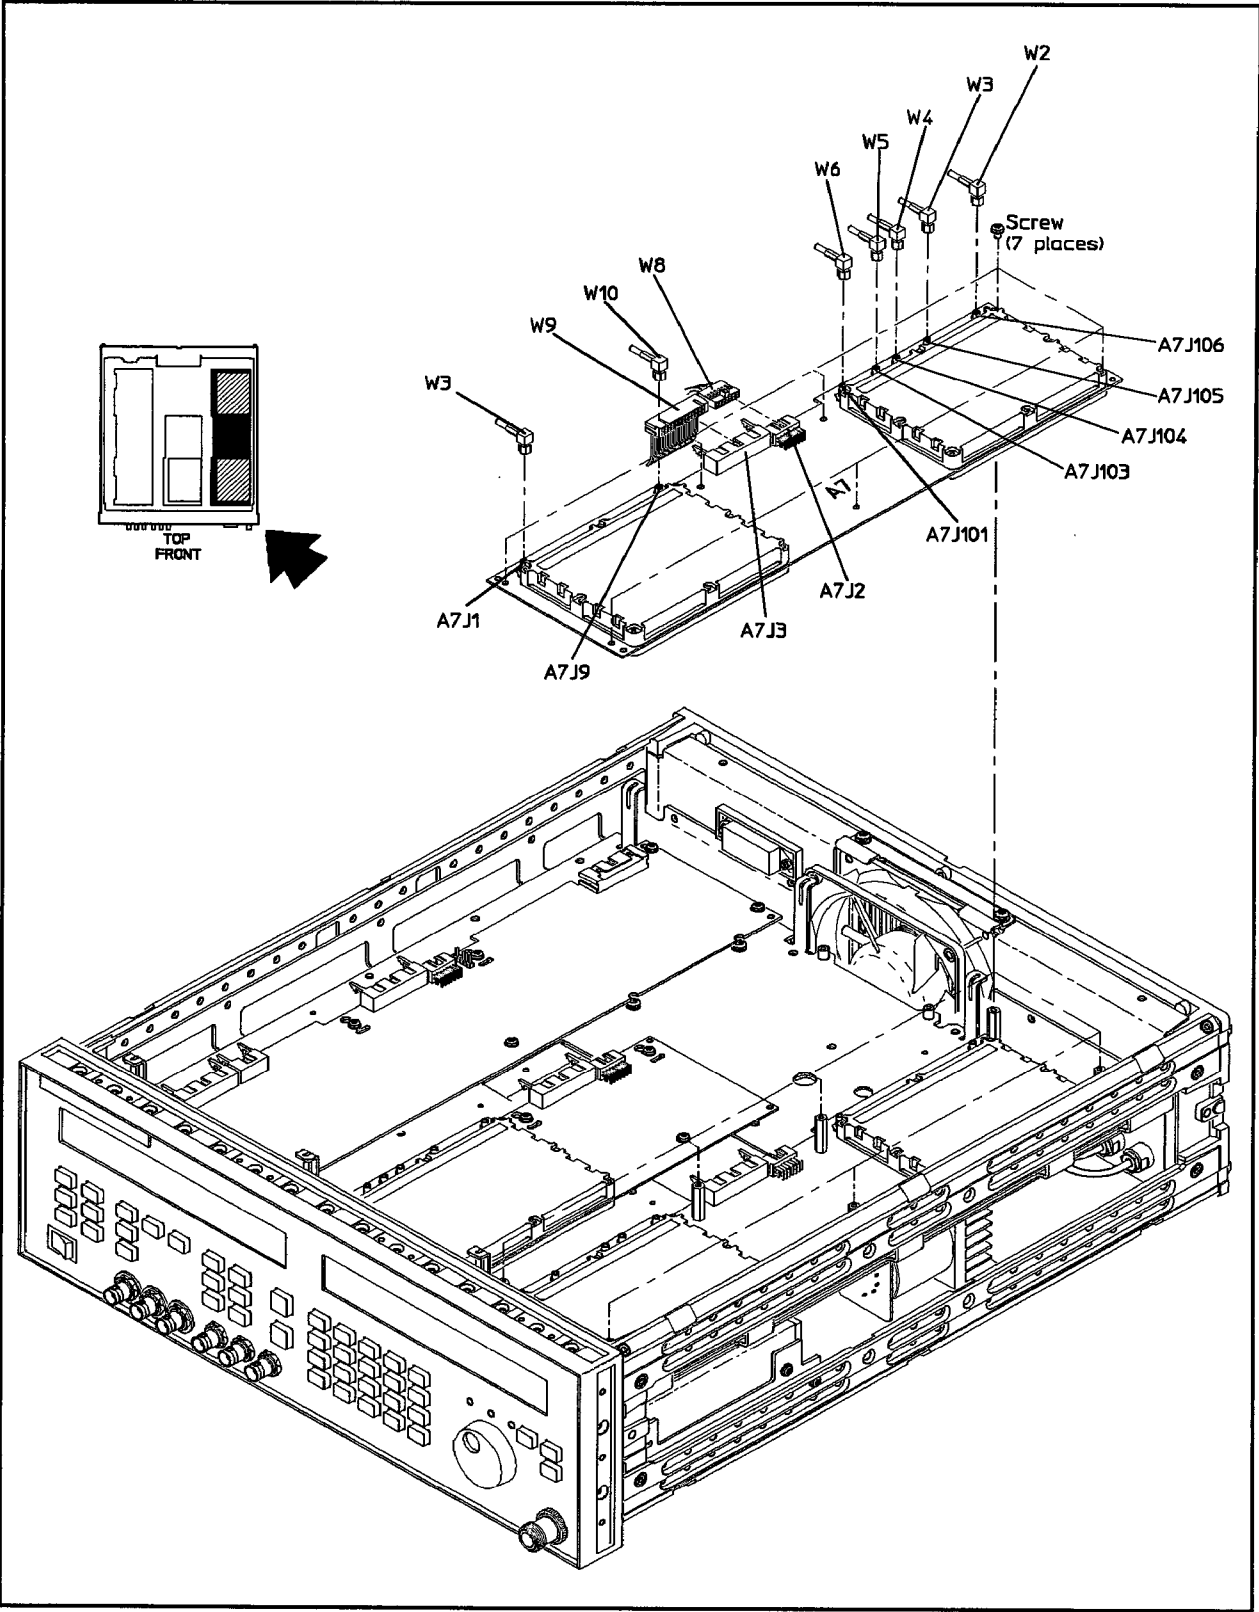

Figure 5-28. YO Loop and Offset Synthesizer Board Removal
3. In the introduction to this chapter, refer to “Flexible Coaxial Cables,” and Figure 5-28. Then, disconnect the following cables using a 15/64 in end wrench:
4. Refer to “Multi-wire Cables” and Figure 5-28. Then, disconnect the following cables:
5. Using a size 10 TORX® screwdriver, remove the seven screws connecting the assembly to the standoffs and frame. See Figure 5-28.
3. Using a size 10 TORX® screwdriver, remove the seven screws connecting the A7 assembly to the standoffs and the A6 assembly. See Figure 5-28.